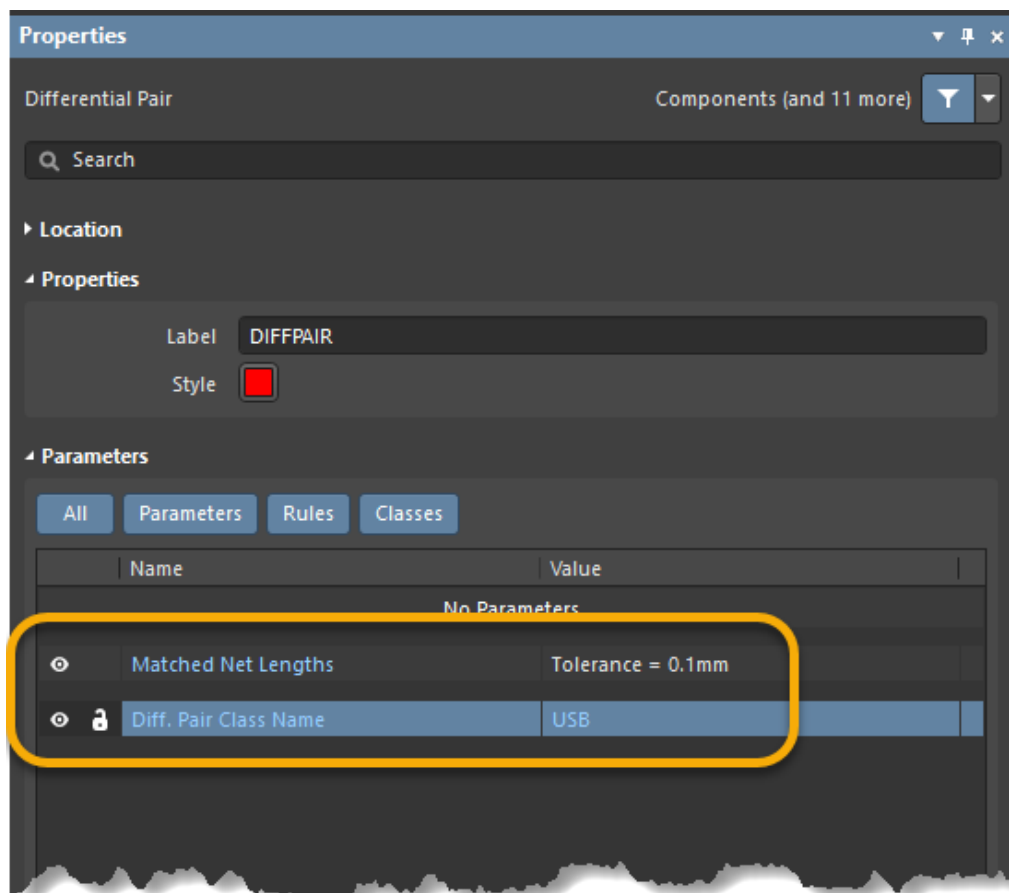

Figure 2. Diff. Pair directive with PCB Rule and Diff. Pair class information.
6. After placing the Differential Pair directive, it was updated with a Differential Pair Class Name and a Matched Net Lengths PCB Rule, as seen in Figure 2.